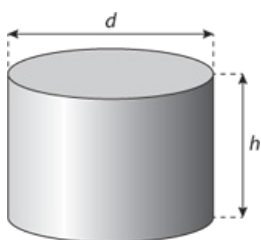

Figure 1.1: A cylinder.
- e Extension question. The volume v of a cylinder with diameter d and height h as shown in Figure 1.1 is given by: